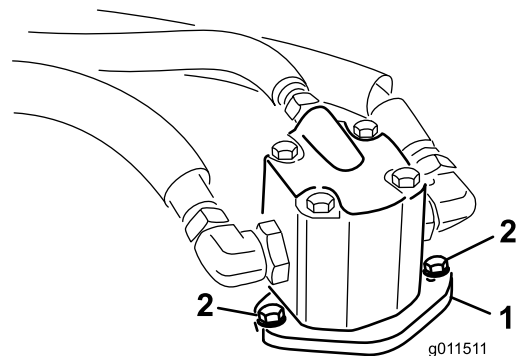

Figure 115
- Remove the bolts securing the hydraulic motor to the mower deck (Figure 115).